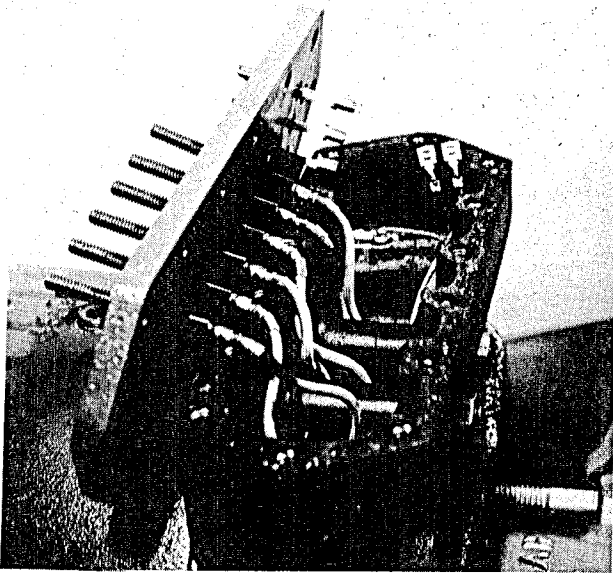

Figure 38
4. Set terminal plate, with lower insulators installed, on the motor barrel. Install the motor studs to the plate (Figure 38). Numbers on the motor leads must match with numbers on the terminal plate.